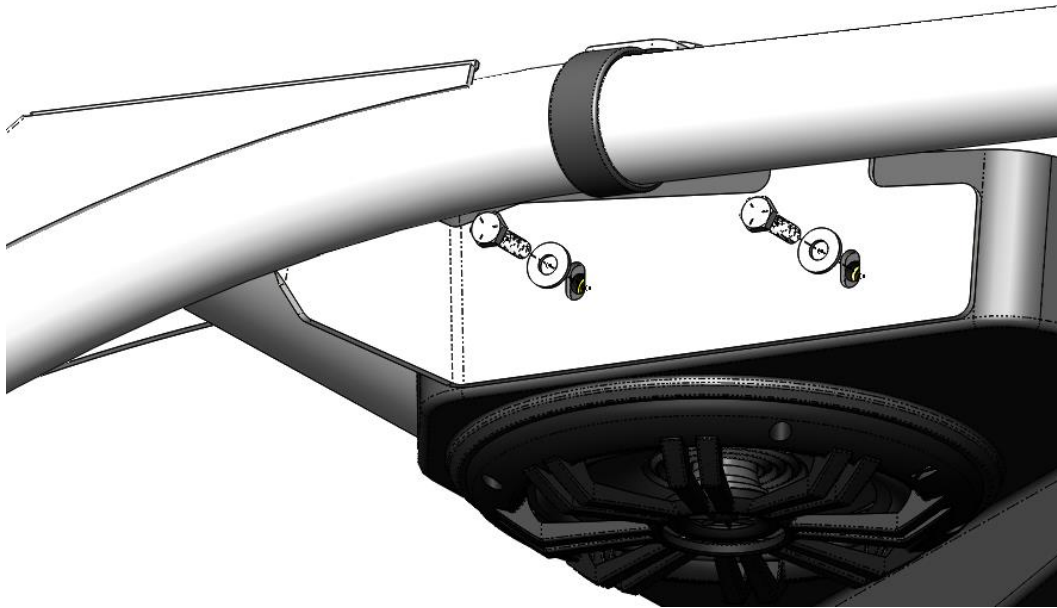
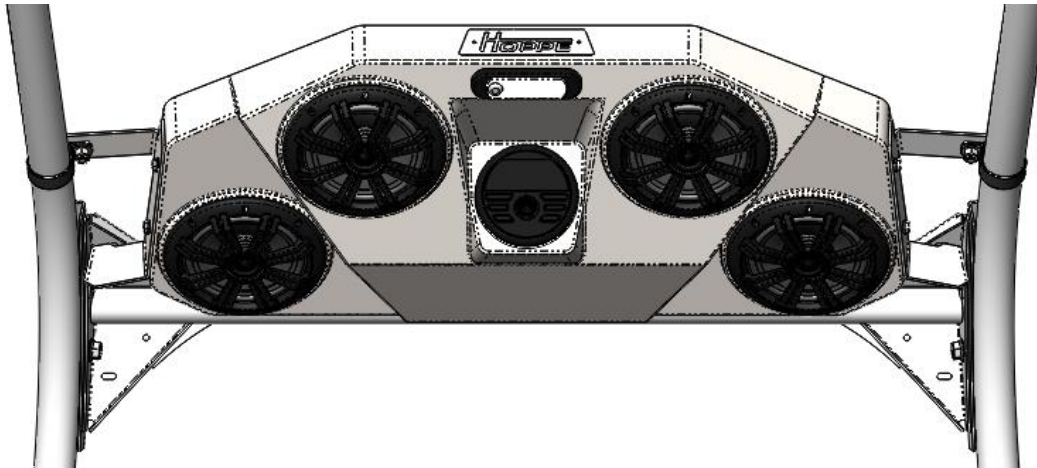

Figure 15: Install the 1/4"-20 bolts and washers to mount the Audio Mini to the brackets.
Figure 16: Loosely install the sound system on the mounting brackets.
14. Hang the *Audio Mini* off-road sound system on the brackets using the supplied $\frac{1}{4}$ "-20 x 1" bolts and washers (loosely tightened). See Figure 15 and Figure 16.